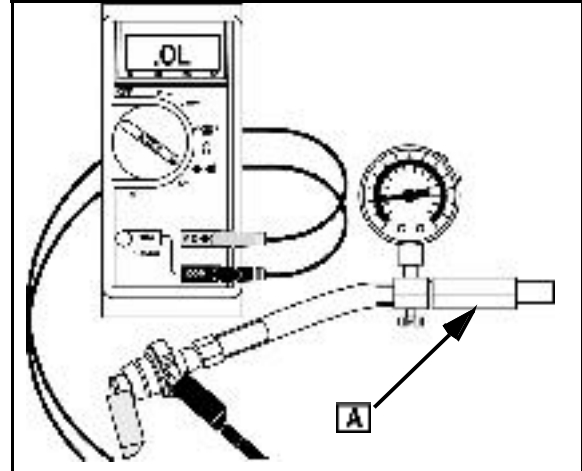

Fig. 49
2. Connect one tester lead to the switch terminal and the other tester lead to the metal body of the switch, Fig. 49.
3. Connect the probe end of the switch to a low pressure source ([A] Fig. 49).